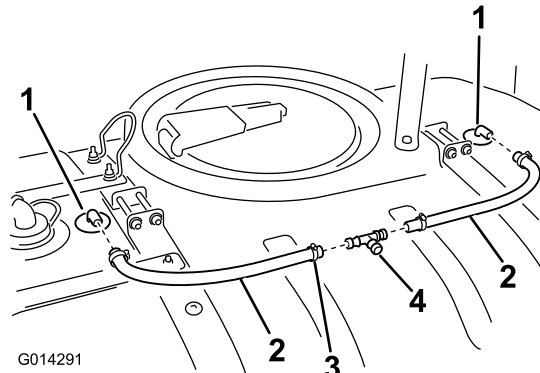

Figure 24
- Slip a hose clamp on 1 end of each of 2 hoses (24 inches) as shown in Figure 24.
- Install the 2 inline ends of the tee fitting to the open ends of the rinse-nozzle hoses installed previously as shown in Figure 24.